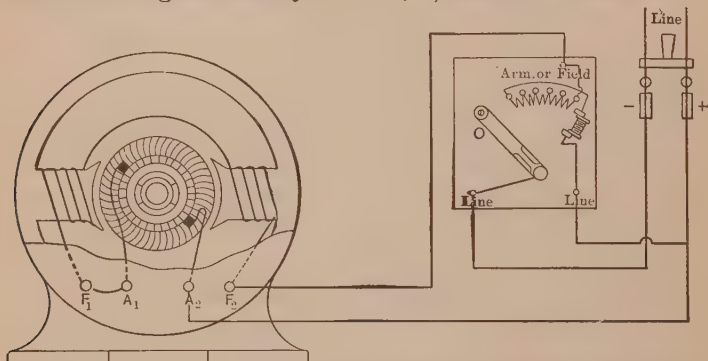

FIG. 151. The connections of a starting box for a series motor.
**72. Series Motor. Starting Box.** The starting box of a series motor is always a three-point box, but still always has a "no-voltage" release as is seen by Fig. 151.